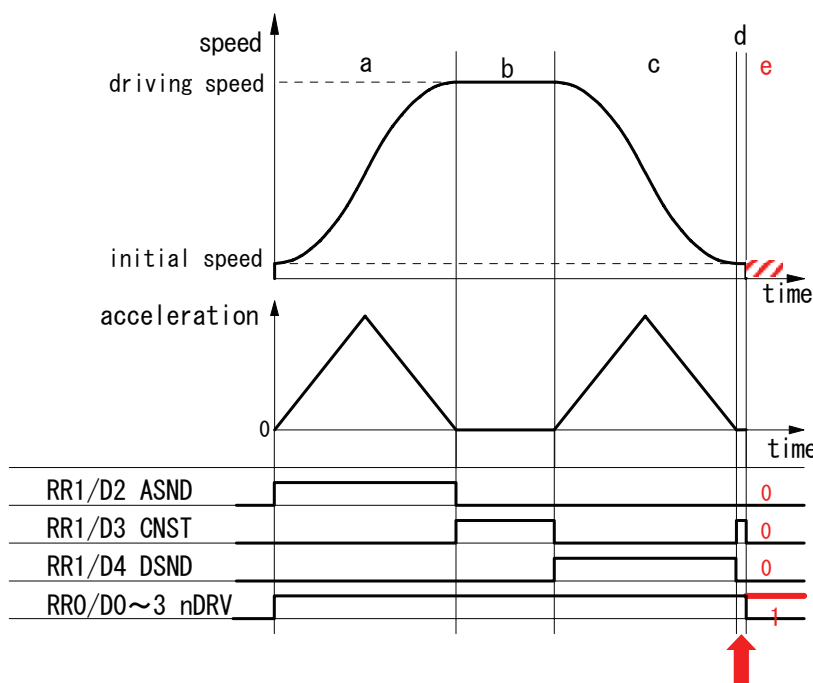

Figure 3. Status of deceleration shown by RR1 register
Deceleration status of accelerating(ASND), constant speed driving(CNST) and decelerating(DSND) can be read out according to RR1 register of IC. The status is shown as Figure 3. as below ;
The timing when the trouble may possibly happen is shown as “d” on Figure 3. At this time, status of deceleration is constant speed driving(CNST=1). Besides in case the trouble such as outputting pulse continuously happens, all of ASND, CNST and DSND will become 0 even though it's driving(RR0/nDRV=1).
Basically once deceleration starts, it isn't necessary to execute deceleration stop command. Therefore deceleration stop command should be prohibit. See nRR1/D4(DSND) normally to know it's decelerating or not. Timing when the trouble happens is in “d” as shown on Figure 3 if deceleration stop command is executed. In “d” DSND status bit is 0 and CNST status bit is 1. Therefore the following two(2) solutions will be proposed.
(1) When interruption from IC can be used
Terms when deceleration stop command should be executed in accelerating and constant speed driving such as “a” and “b” on Figure 3. Status of deceleration for both “d” (timing when the trouble happens) and “b” (constant speed driving) is same as constant speed driving as shown on Figure 3. But there is difference of driving speed between two. Driving speed in “b” is near that of setting driving speed. Driving speed in “d” is near that of initial speed. Therefore before driving starts, prepare judgmental speed which is middle one between initial speed and setting speed ( $(\text{Driving speed} - \text{initial speed})/2 + \text{initial speed}$ ). When execute deceleration stop command during driving, make sure status is accelerating(ASND=1) or constant speed driving(CNST=1) and driving speed is same or faster than judgmental speed.
Constant speed area (“b” area) on Figure 3 is set as occurrence factor of interruption. But this interruption is also happened when there is “d” area just before driving stops on Figure 3 such as when driving speed reaches initial speed or when acceleration becomes 0(zero). There should occur “d” area definitely if the trouble is happened just before driving stops, driving speed hasn't reached initial speed yet, acceleration becomes 0 and decelerating stop requirement is executed. The measure is to judge if the trouble happens or not in the timing of interruption when “d” area ends.
- ① Check if driving goes out constant speed area or not. If RR3/D5(C-END) bit of driving axis is 0, there are other interruption factors. Execute those interruption processing.
- ② Check if driving goes into decelerating area or not. If it's RR1/D4(DSND)=1, make it finished as it goes because driving goes into "c" area from "b" area on Figure 3. If it's RR1/D4(DSND)=0, move it to ③ processing because driving has gone out "d" area.
- ③ Check if driving has finished or not. If it's finished, make it finished as it goes because driving has finished normally. But if it's not finished yet, surely trouble have happened because status is shown as it's still driving even though driving has gone out "d" area.
- ④ Check if hard limit is ON or OFF. Since RR1/D12 bit becomes 1 if + limit is ON and RR1/D13 bit becomes 1 if - limit is ON, if it's D12=1 or D13=1, judge forward limit is ON.
- ⑤ If trouble has happened, it becomes ASND=CNST=DSND=0. Check them all.
- ⑥ Execute sudden stop command(27h).
(2) When interruption can't be used
In “d” area on Figure 3, if forward limit is active, the trouble will happen, more exactly saying, it will seldom happen. There isn't any method to avoid it before it happens. So immediately after the trouble happens, take means to stop driving. If the trouble happens (“e” area on Figure 3), status keeps driving(RR0/nDRV=1), status of acceleration/deceleration is 0 in ASND, CNST, DSND. This is completely abnormal state. So the example of measure is shown as follows;